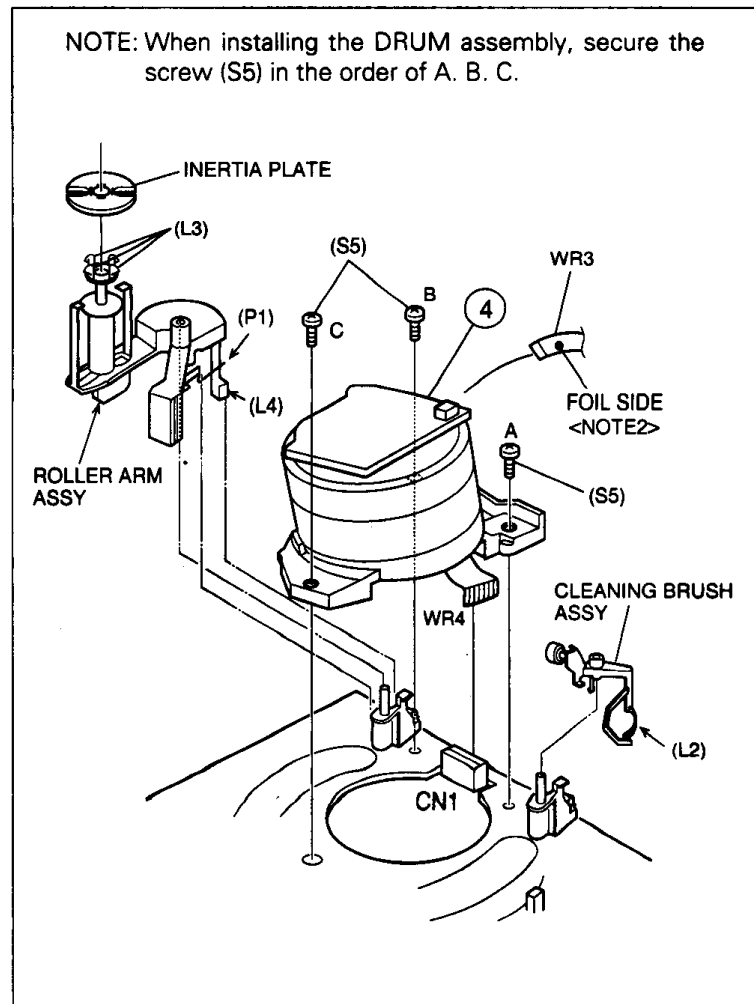
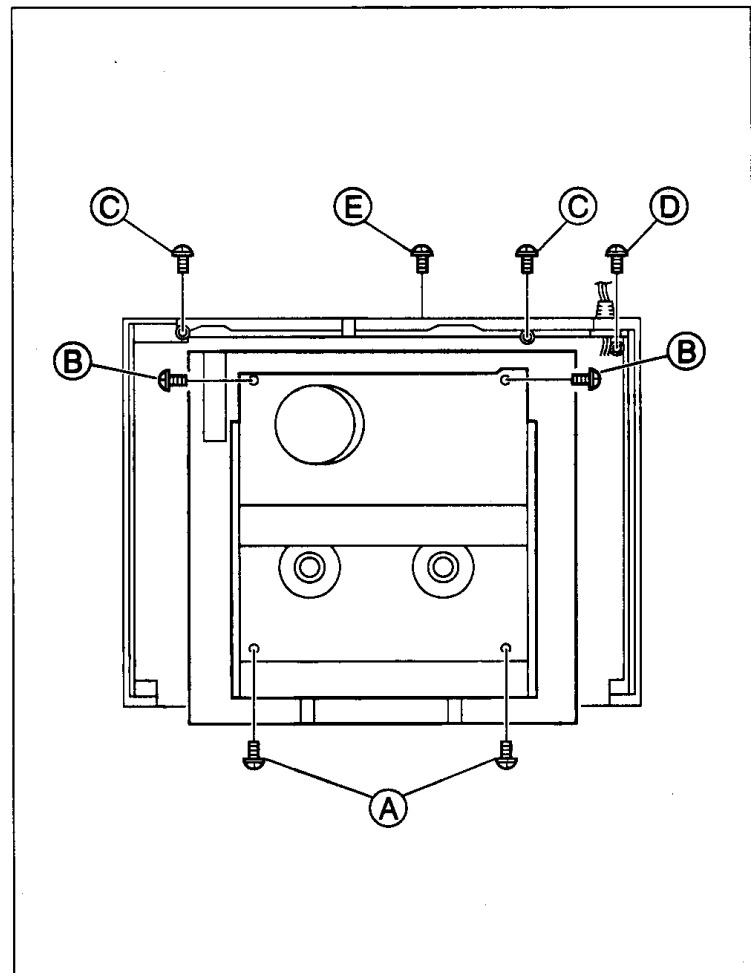

Fig. D4
Fig. 1-4-1
- (1) Remove the Top cover, Bracket, Front panel assembly and JACK board assembly. (See 1.3 DISASSEMBLY/ASSEMBLY METHOD. Take care not to pull the drum wire (Fig.D4) from CN1.)
- (2) Lower the cassette holder, and make the preparations required in order to remove the screws from the Mechanism assembly. (Refer to the "Procedures for Lowering the Cassette holder assembly" on pages 1-3 of 1.3 DISASSEMBLY/ASSEMBLY METHOD.)
- (3) Take out 2 screws (A) and 2 screws (B) as shown in Fig. 1-4-1.
- (4) Remove the flat wires from CN3011 and CN7504 on the Main board assembly.
- (5) Take out 2 screws (C), 1 screw (D) and 1 screw (E) as shown in Fig. 1-4-1.